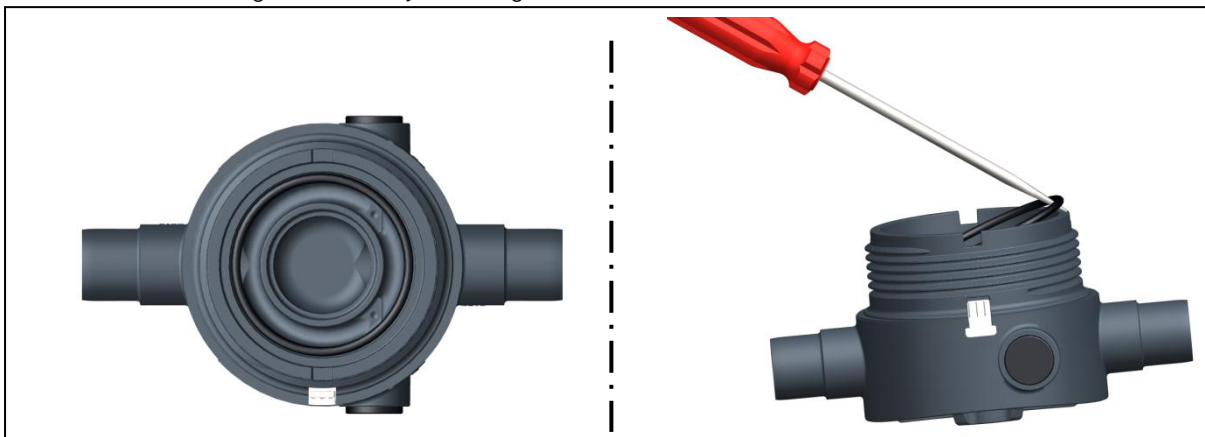

Fig. 10
- Remove 2 O-rings from body, see Fig. 10